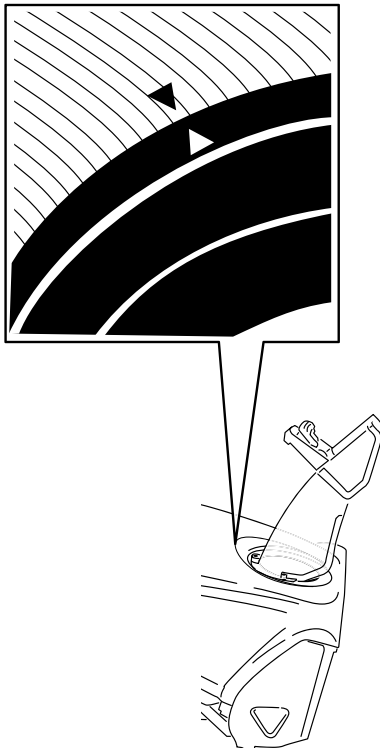

Figure 36
3. Rotate the discharge chute so that it faces straight ahead and the arrow on the back of the discharge chute aligns with the arrow on the shroud (Figure 36).